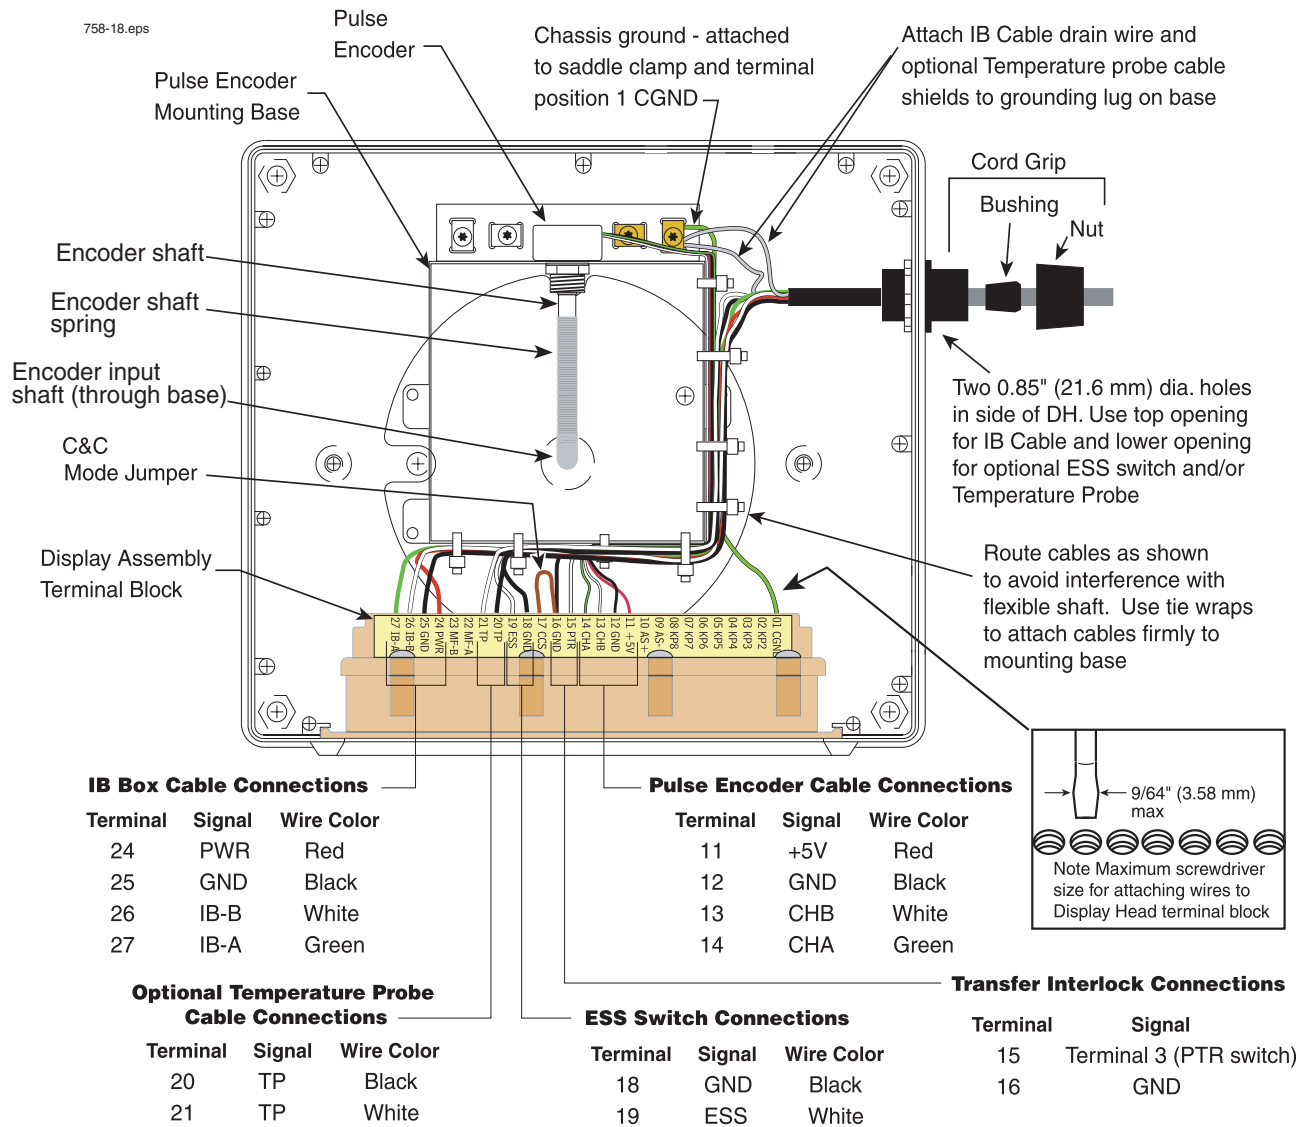

Figure 20. Display Head Cable Connections
10. Look at the base of the Display Head. Locate the Encoder Drive Spring (see Figure 20). Pull/slide the encoder spring off of the encoder shaft.
2. Slide the cord grip nut and then the bushing over the IB cable leads. Pull enough cable through so that the leads reach the terminal block on the Display Assembly and can be tie wrapped to the Pulse Encoder mounting base as shown in Figure 20. Slide the tapered end of the bushing into the cord grip, then screw on the cord grip nut and tighten securely.
3. Attach the IB cable to the Terminal Block as shown in Figure 20. Attach the drain wire of the IB cable to a grounding lug on the Pulse Encoder mounting base as shown in Figure 20.
Encoder mounting base as shown in Figure 20. Slide the bushing into the cord grip and then screw the cord grip nut onto the cord grip and tighten securely.
5. Attach each wire (no polarity) of the 2-conductor Temperature Probe and/or ESS switch cable(s) as shown in Figure 20.
7. For Transfer Interlock applications, attach the 2-conductor cable from the switch as shown in Figure 20.
1. A C&C Mode wire jumper (see Figure 20) - configuration. To enter C&C mode, you remove one end of the jumper from its terminal, and you reconnect it when finished.